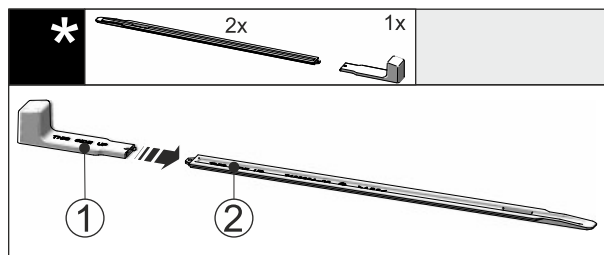

Fig. 50
- ▶ Insert the mounting handle Fig. 50 (1) into the leveling rail Fig. 50 (2).